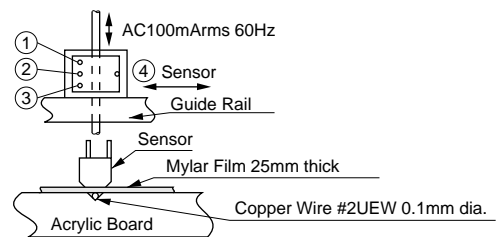

Fig. 2 Test Fixture for Output Voltage Measurement
2. Sensor is set in the test fixture as shown in Fig. 2.